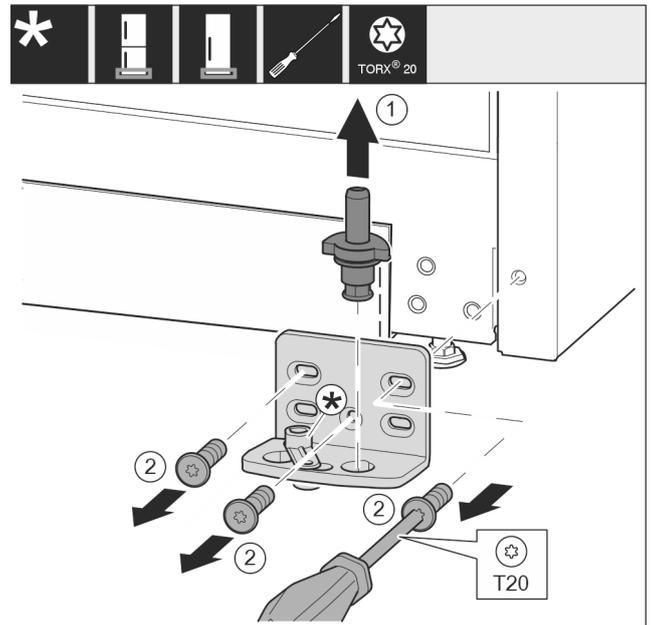

Fig. 10
- ▶ Lift the bearing pin completely upward and pull it out. Fig. 10 (1)
- ▶ Take out the screws with a T20 screwdriver and take off the bearing bracket. Fig. 10 (2)